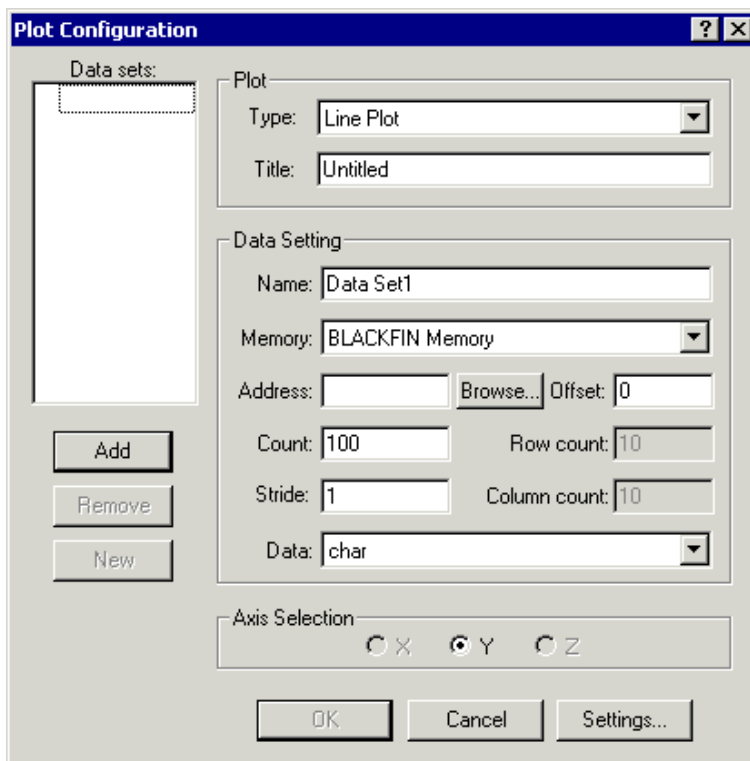

Figure 2-25. Plot Configuration Dialog Box
1. From the **View** menu, choose **Debug Windows** and **Plot**. Then choose **New** to open the **Plot Configuration** dialog box, shown in Figure 2-25.